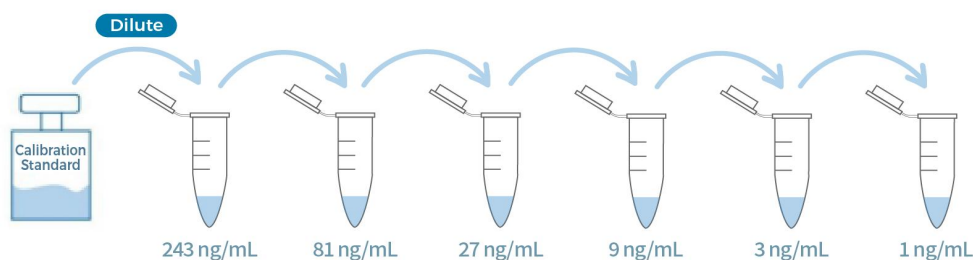

Figure 3. Graphic scheme of *E.coli* HCP-E Calibration Standard Solutions
- Prepare *E.coli* HCP-E Calibration Standard Solutions as shown in Fig 3 and Table 3.